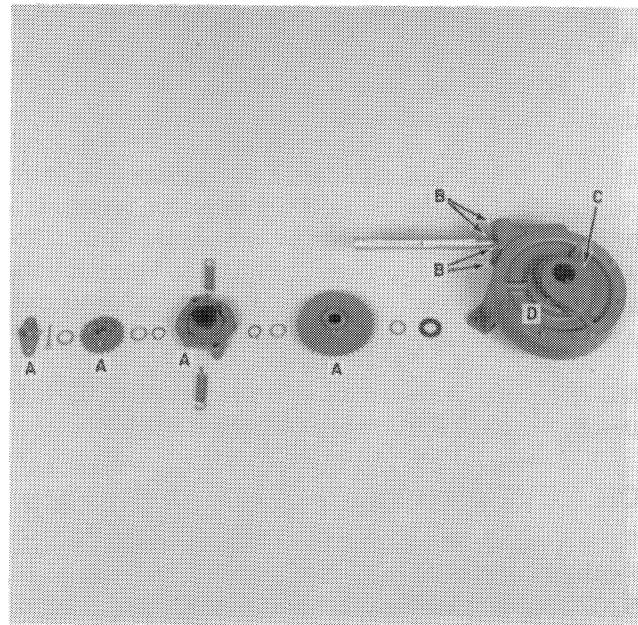

FIGURE 8
2. Remove the drive components, A, as shown in Figure 8.
3. Remove four cap screws, B, Figure 8, from the input shaft bearing retainer. With the gearbox in an upright position, the input shaft can be removed by rotating it in a counterclockwise direction. The lubricant can then be drained through the input shaft opening.
4. Remove shear hub, C, and cover, D, Figure 8, as outlined in Step 1.